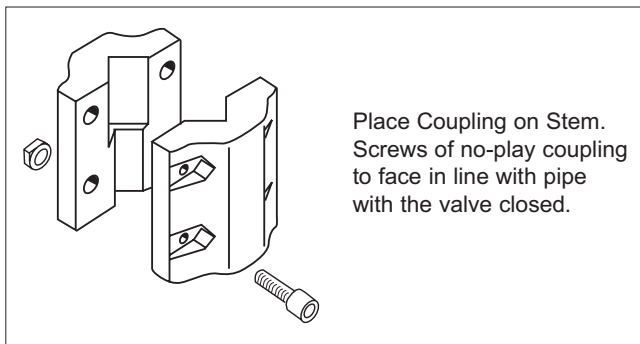

Figure 10.
2. Assemble bracket to actuator as shown in (**Figure 10**). Tighten to torque listed in (**Table 4**).